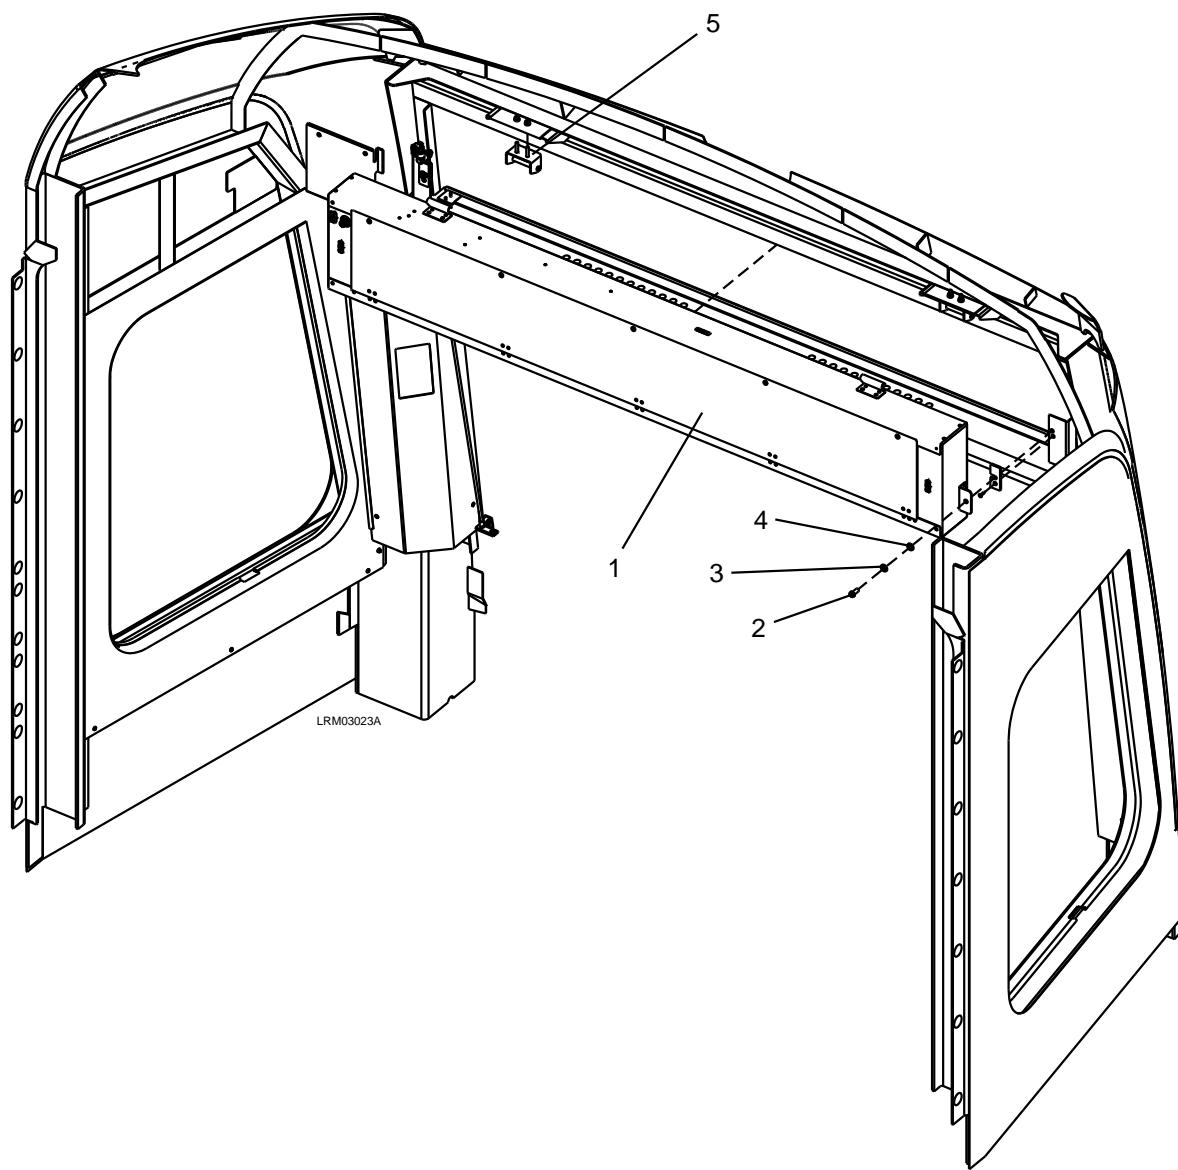

Figure 7-10: Front Destination Sign
1. Disconnect the electrical connections from the Front Destination Sign (1). See Figure 7-10.
2. Remove the two M8 x 20 screws (2), M8 lock washers (3) and M8 plain washers (4).
3. Carefully remove the Front Destination Sign (1) by lifting up off the brackets (5).